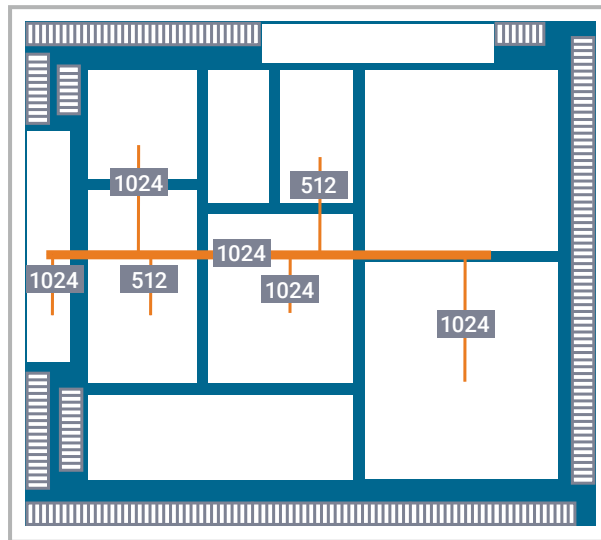

Figure 3: Timing Critical Bus Connecting To Blocks
- Physical block placement and shaping: are block utilizations reasonable? Are the timing of critical top-level busses (refer to figure 3) likely to be impacted by distances between blocks?